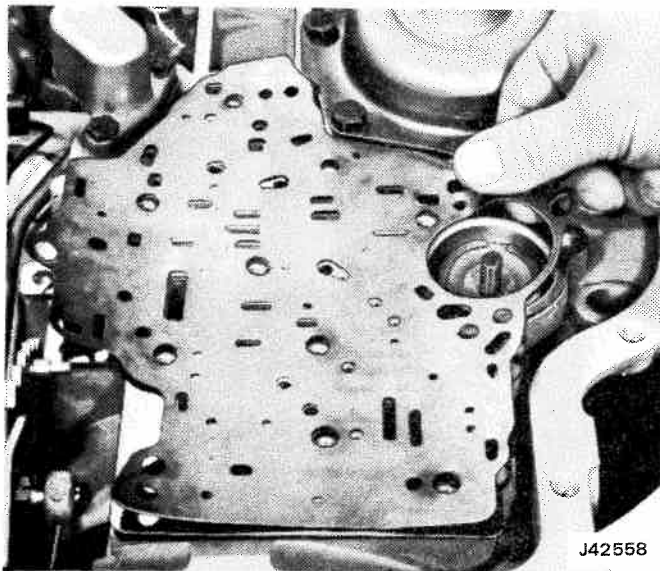

Fig. 7-128 Installing Control Valve Spacer Gasket
- (1) Install control valve-to-spacer gasket on spacer, as shown in figure 7-128.